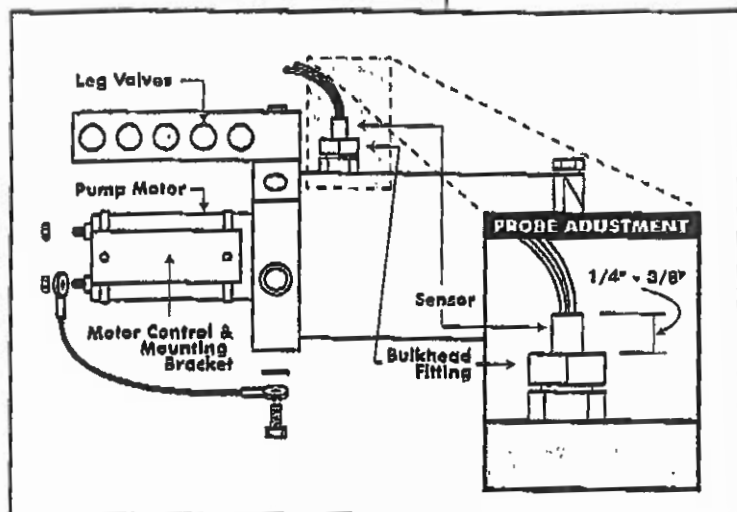

Figure 2g
- b. Adjust the probe by loosening the upper nut on the brass bulkhead fitting located near the top of the reservoir. Adjust the height of the probe so that it protrudes a minimum of 1/4" and a maximum 3/8" above the upper nut of the bulkhead fitting when tightened. (Fig. 2g)